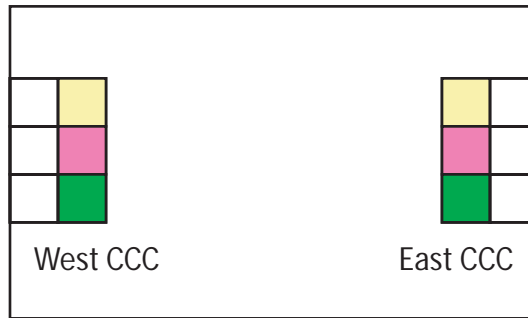

Figure 1-12. NGMUX Subblock Interconnects
- *Place NGMUX:* Chooses one of the two available locations for NGMUX. The tile 5 of the central CCC locations. (Shown in yellow in Figure 1-12)
- *Place the driver for CLK0:* The driver for CLK0 has to be a CCC macro that can be placed in the CCC-GLA tile (shown in green in Figure 1-12). The CCC macros that can be placed here are:
- *Place the driver for CLK1:* If the driver for CLK1 is a CCC macro, it infers a hard-wired connection. This macro must be placed in the CCC-GLC tile (shown in purple in Figure 1-12)